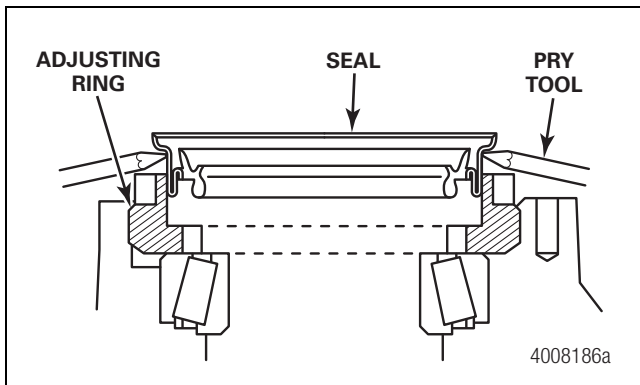

Figure 16
3. Pry under the oil seal flange to remove the oil seal from the adjusting ring. Discard the oil seal. Figure 16.